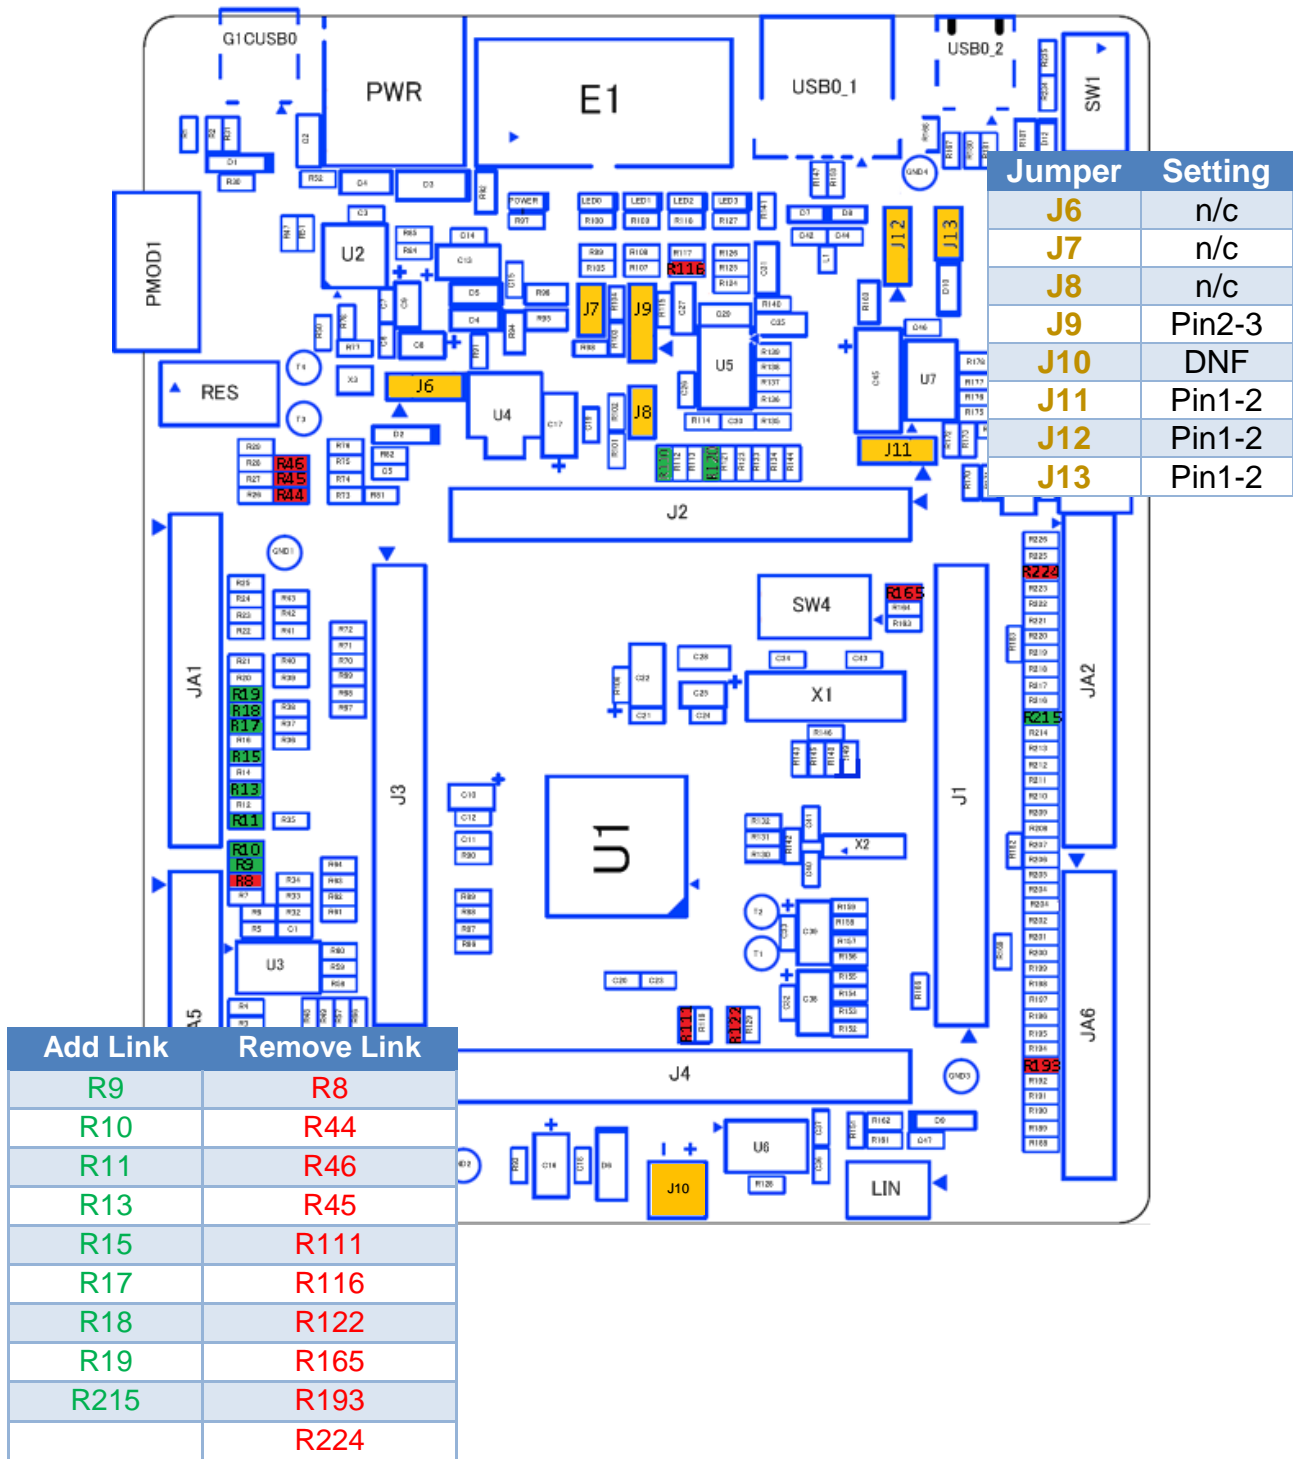

Figure 3-2 : Illustration of option links needed to modify the RSKRX111 for the Pmod Display and Sensor samples.
- RSKRX111 Test board with default option links and then configured as in section Figure 3-2.
The jumper settings and option links needed for the Pmod™ Display and Sensor samples are shown in Figure 3-2.